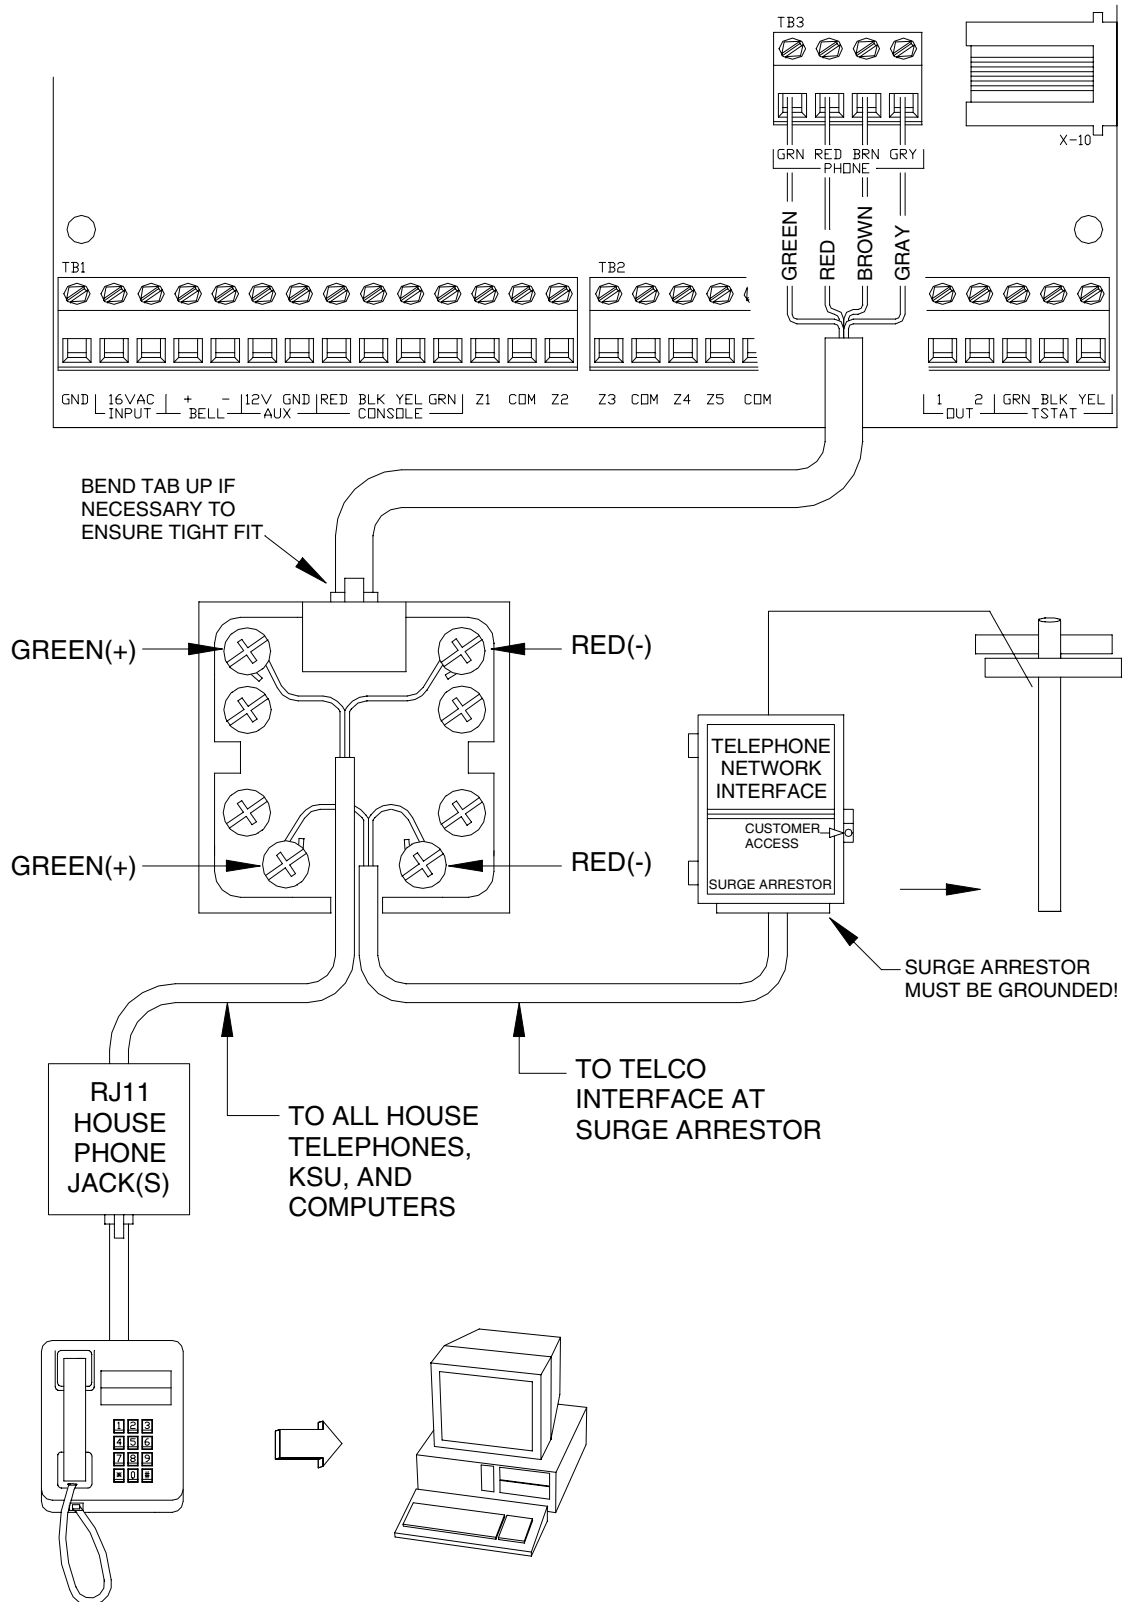

FIGURE 5 - RJ31X JACK CONNECTIONS
10. Refer to **FIGURE 5 (RJ31X JACK CONNECTIONS)** for this configuration.